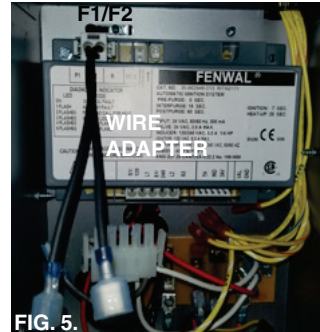

FIG. 5.
5. Connect the ICM to wire adapter (P/N 476208) for **F1 and F2** as shown in Fig. 5. One end of the adapter is a two position Molex® connector that connects to the ICM. The other end of the adapter is a 1/4" male quick connect terminal.